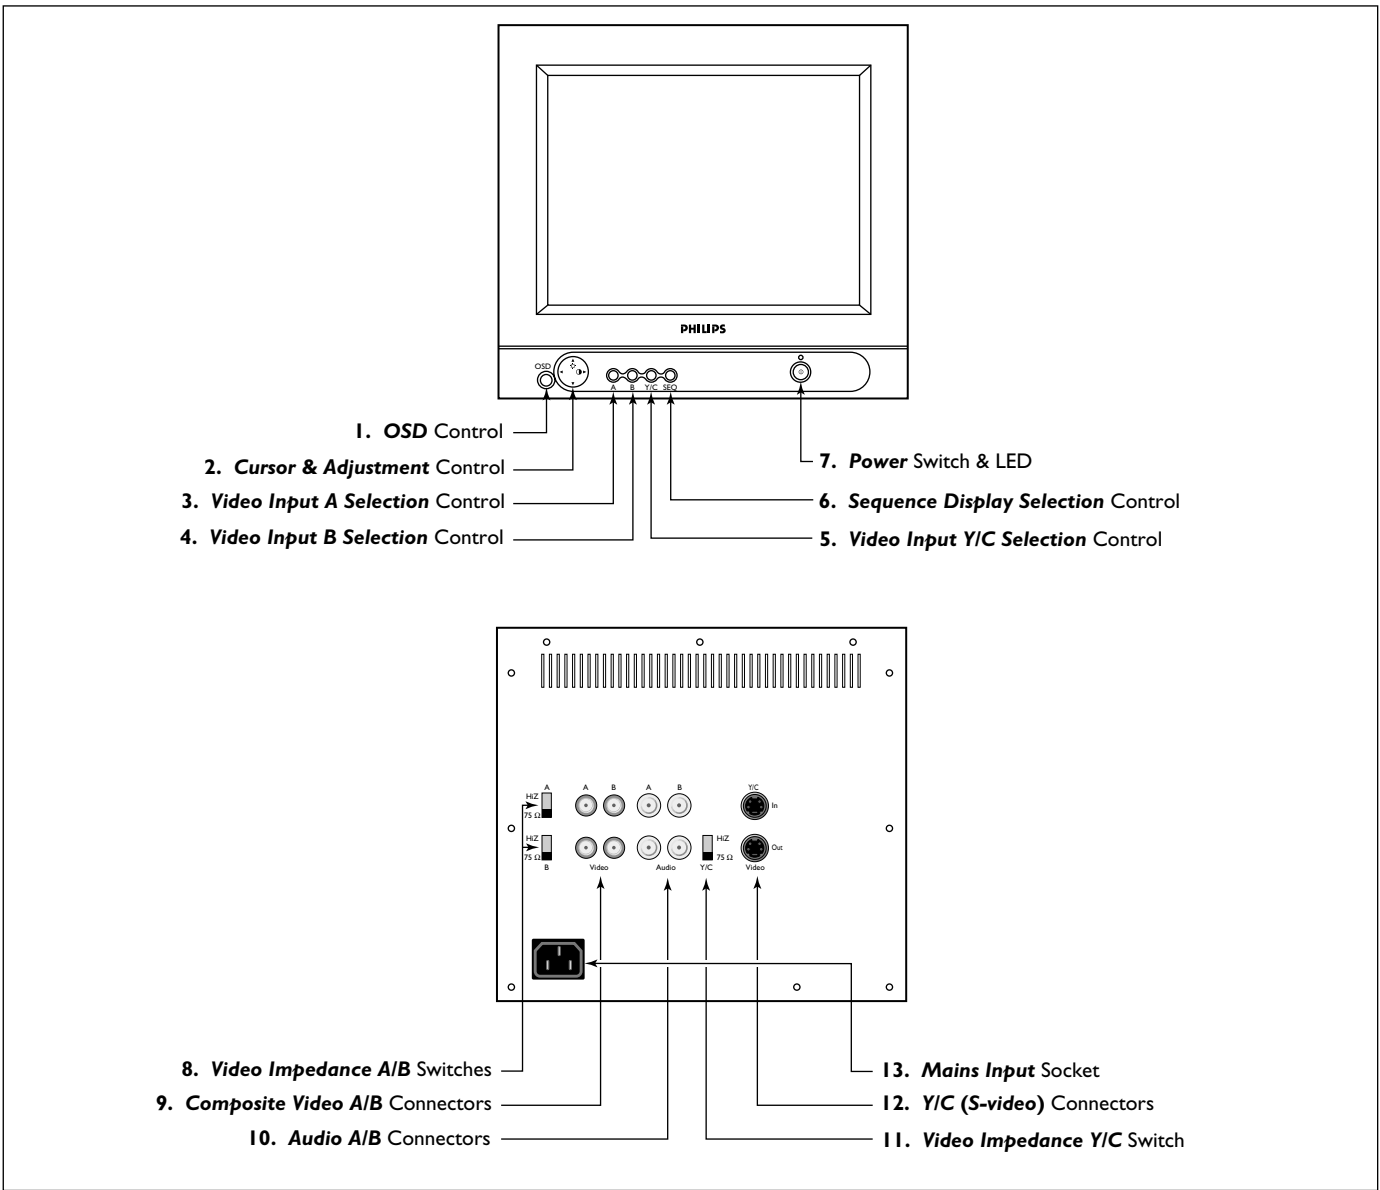

Fig 1 Monitor Models LTC 2914/91, LTC 2917/91, and LTC 2919/90 – Front and Rear Views
The LTC 2914/91, LTC 2917/91, and LTC 2919/90 monitors are delivered with a 3-pole US style power cord and a 3-pole Euro style power cord. The US style power cord is used where 120 VAC, 60 Hz power is available, and the Euro style power cord is used where 230 VAC, 50 Hz power is available. The monitor end of the power cord plugs into mains input socket (Fig 1, Item 13) on the rear panel. The monitor automatically adjusts to either power input voltage. A power on/off switch is located on the front of the unit (Fig 1, Item 7).
The four (4) BNC connectors (Fig 1, Item 9) located on the rear of the monitor are for composite video inputs and outputs.
There are two (2) mini-DIN type connectors (Fig 1, Item 12):
There are two sets of monaural audio connectors (Fig 1, Item 10): one for audio input and the other for a loop-through output to another device.
### 3.1 Front Panel Controls (Fig 1)
Press the OSD push button (Fig 1, Item 1) to obtain the following menu options: